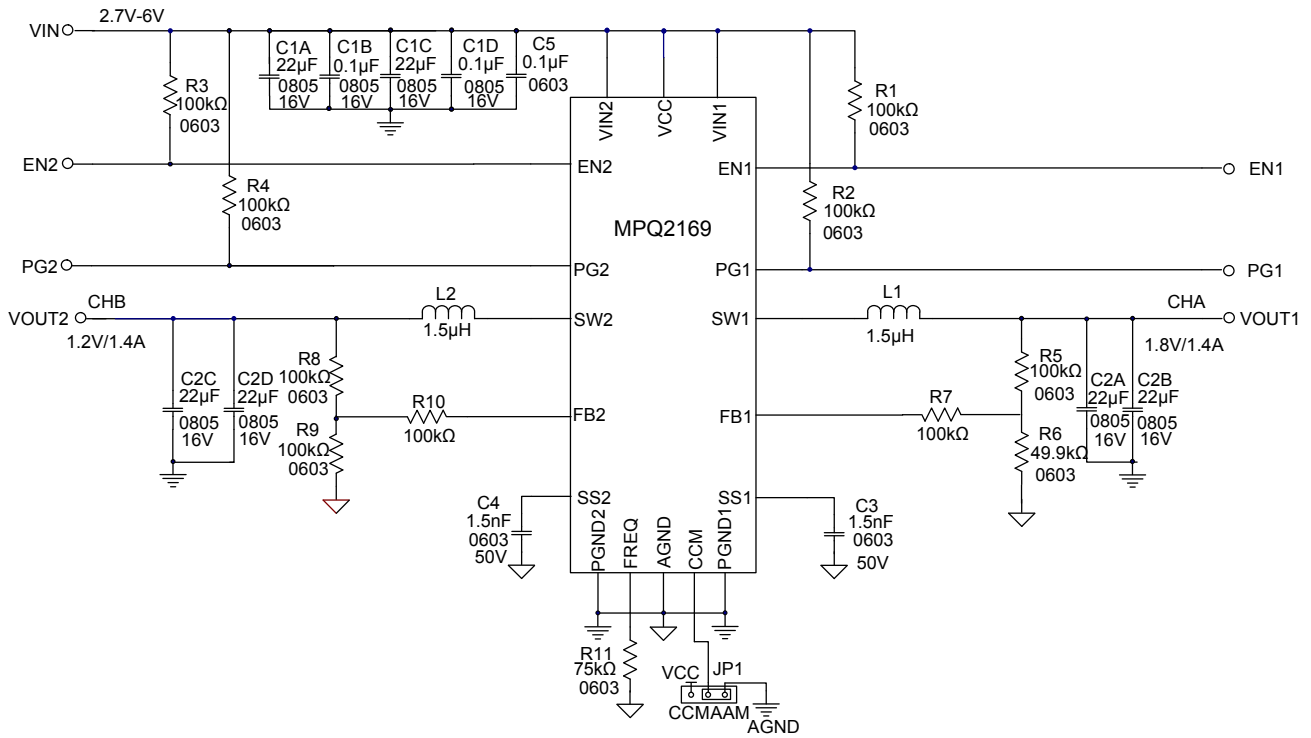

Figure 7: 1.4A/1.4A Application Circuit
7) The recommended PCB layout is based on Figure 7.